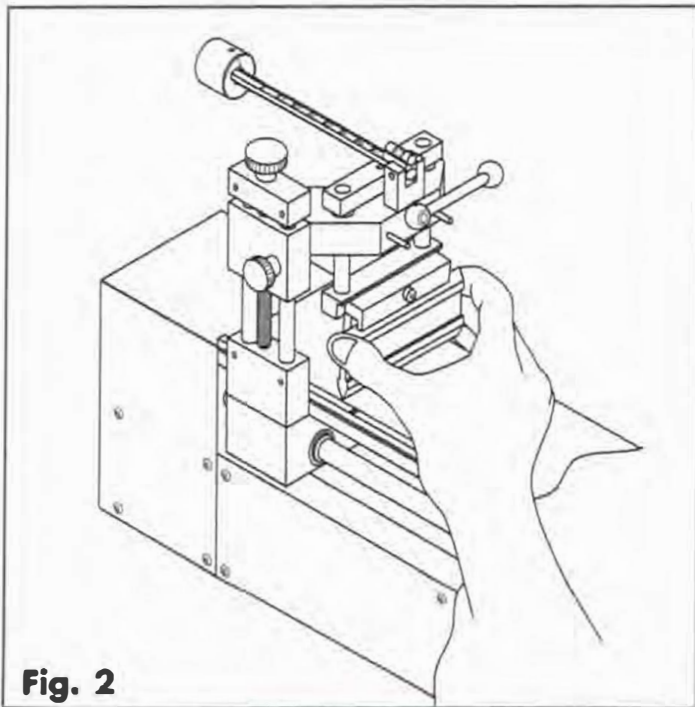

Fig. 2
7. To install the scraper into the scraper holder, place the scraper against the magnets and lift the scraper so it seats firmly as shown in figure 2.